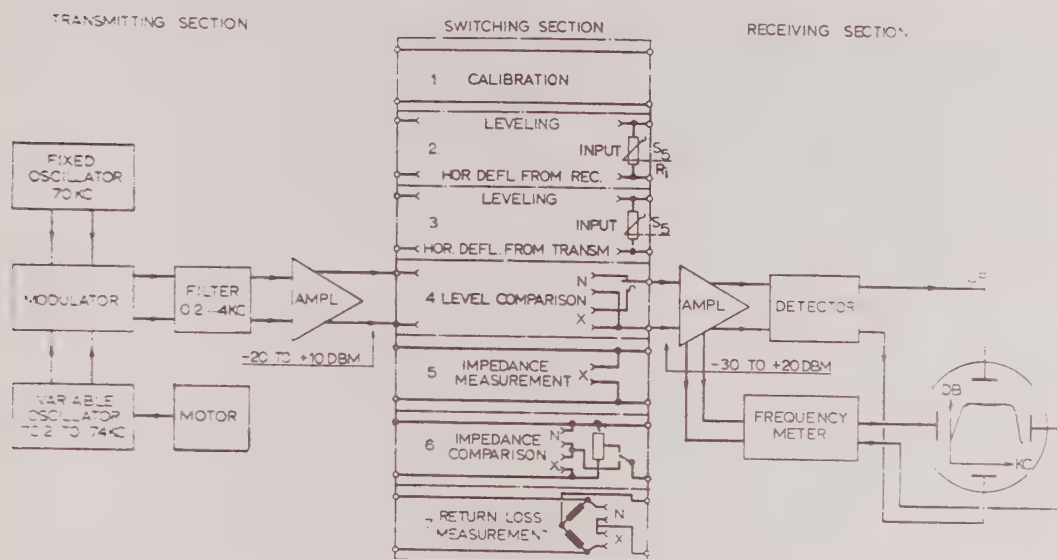

Fig. 2. Block schematic
Fig. 2 shows the basic circuit diagram of the entire device; the full circuit diagram is included in the Circuit Diagrams part.
a. Withdraw chassis from the casing for access to the cam switches (annexed Fig. 2 in the "Parts List, Fault Locating, etc." part).